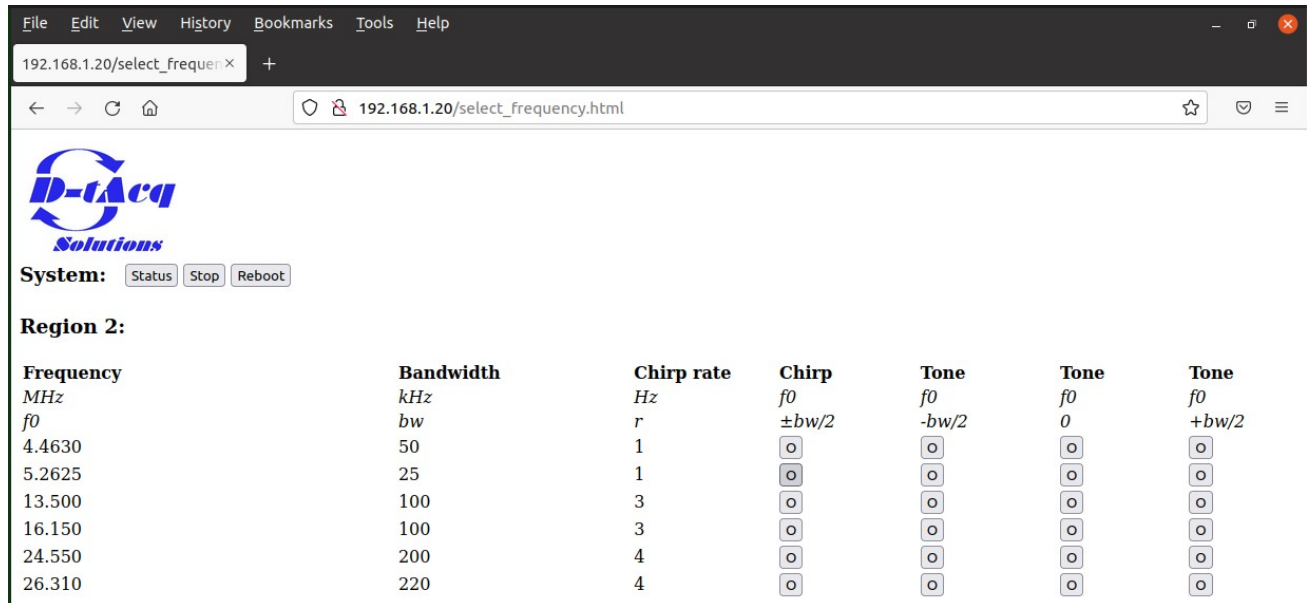

Figure 1. Web interface for programming the synthesizer/transmitter. Only the frequency for which a low-pass filter has been installed can be selected.
13. open browser on this IP address, verify that a screen similar to figure 1 is obtained.
1. open a browser on the unit's IP address, obtain a screen similar to figure 1.